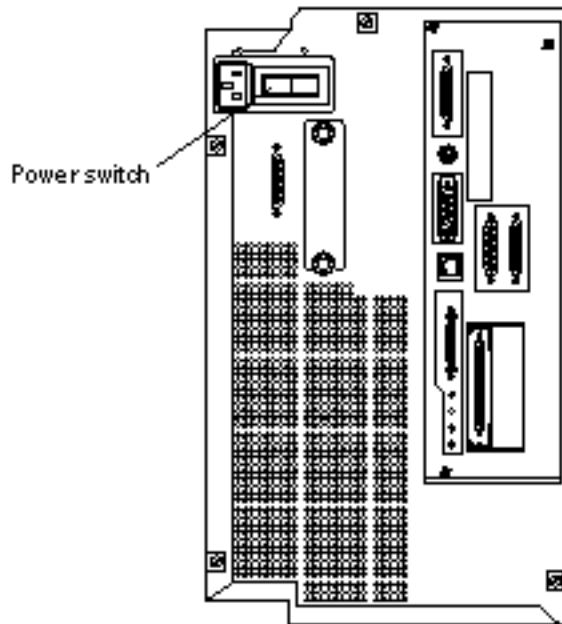

Figure 2-28 Location of the Power Switch
1. Locate the power switch at the rear of the Netra 150 server (Figure 2-28).